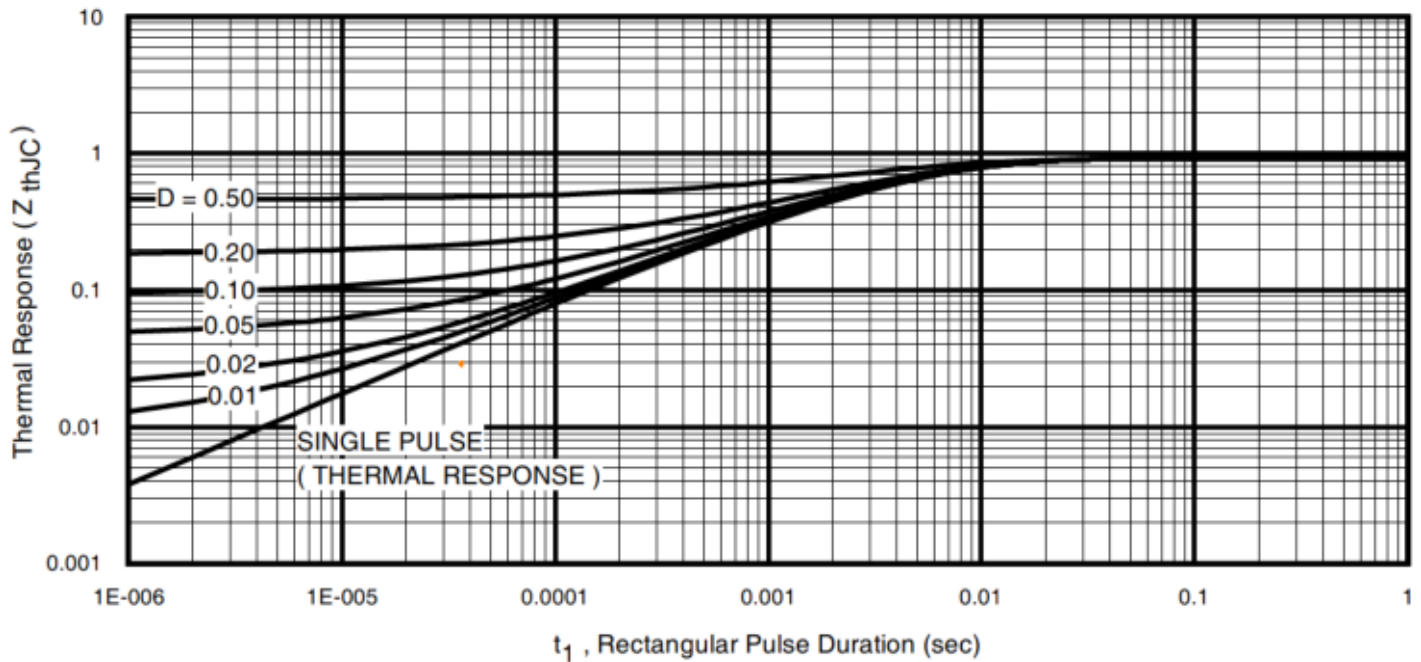
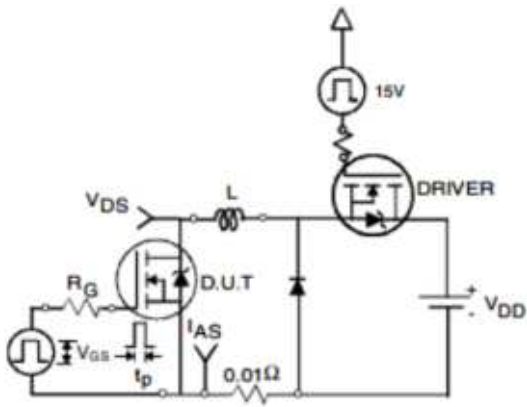

Fig 11. Maximum Effective Transient Thermal Impedance, Junction-to-Case
Fig. 12a. Unclamped Inductive Test Circuit
- ① Repetitive rating; pulse width limited by max. junction temperature. (See fig. 11).
- ② Starting $T_J = 25^\circ\text{C}$, $L = 0.27\text{mH}$, $R_G = 25\Omega$, $I_{AS} = 35A$, $V_{GS} = 10V$. Part not recommended for use above this value.
- ③ $I_{SD} \leq 35A$, $di/dt \leq 380A/\mu s$, $V_{DD} \leq V_{(BR)DSS}$, $T_J \leq 175^\circ\text{C}$.
- ④ Pulse width $\leq 1.0\text{ms}$; duty cycle $\leq 2\%$.
- ⑤ $C_{oss\text{ eff.}}$ is a fixed capacitance that gives the same charging time as C_{oss} while V_{DS} is rising from 0 to 80% V_{DSS} .
- ⑥ Limited by T_{Jmax} , see Fig.12a, 12b, 15, 16 for typical repetitive avalanche performance.
- ⑦ This value determined from sample failure population. 100% tested to this value in production.
- ⑧ This is applied to D2 Pak, when mounted on 1" square PCB (FR-4 or G-10 Material). For recommended footprint and soldering techniques refer to application note# AN-994.